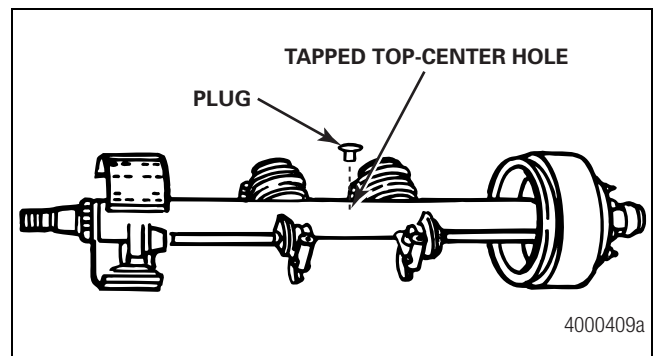

Figure 1.7
- The axle top-center hole is tapped to accept the tire inflation system axle air fitting, and a plug is installed into this hole. Some axle manufacturers may select an alternate location for this hole. Figure 1.7.